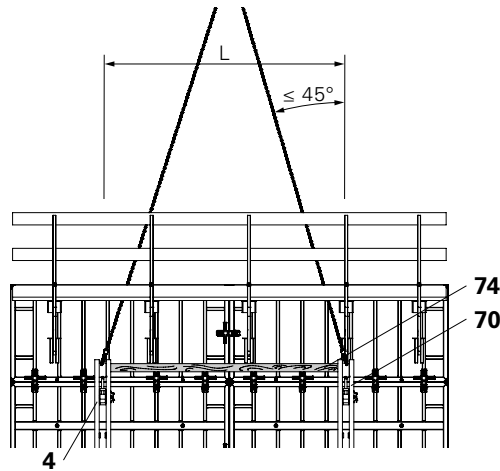

Fig. C1.15
In order to prevent the Strongbacks from being pulled out of line during the lifting process due to the redirection of forces, clamp a suitable piece of timber (74) as a compression brace between the top ends of the Strongbacks (70). (Fig. C1.15)